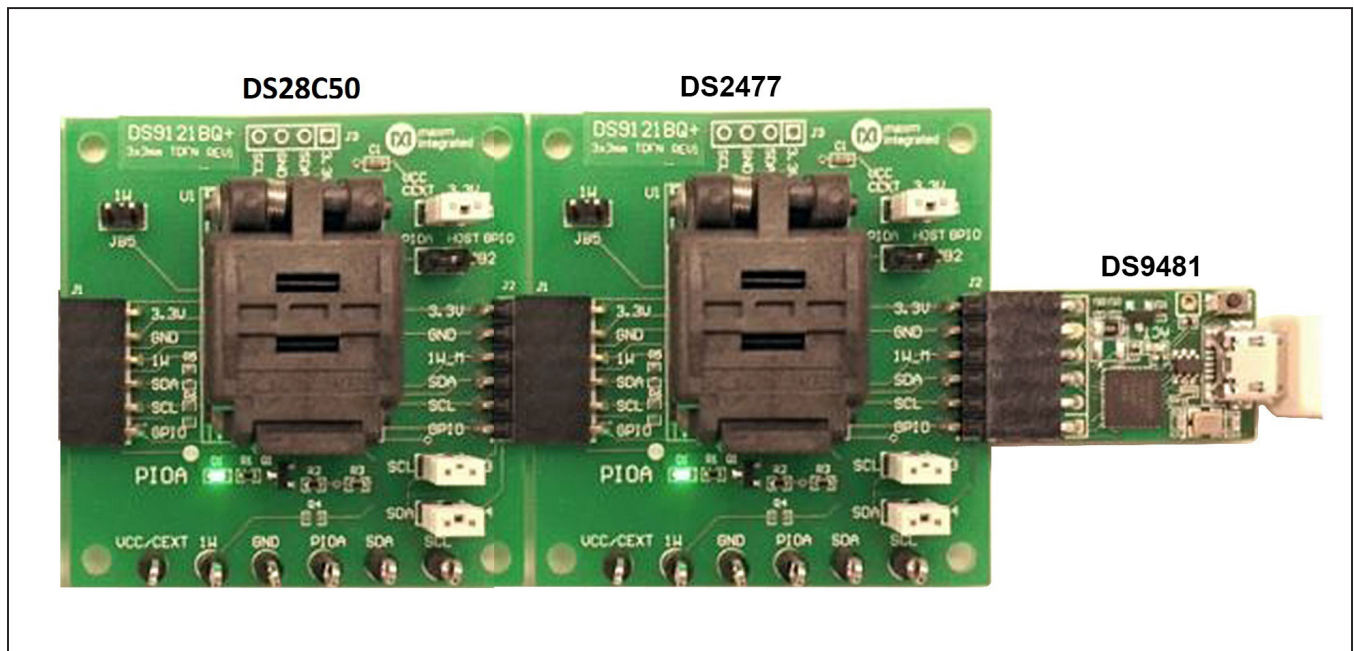

Figure 9. DS9481 Connected to DS2477 and DS28C50
- d) Connect the 1st DS9121BQ J2, 6-pin male plug, into the DS9481P-300#, 6-pin female socket per Figure 9.
- e) Connect the 2nd DS9121BQ J2, 6-pin male plug, into the 1st DS9121BQ J1, 6-pin female socket per Figure 9.
- f) For the DS9121BQ+ socket boards, configure jumpers JB3 to use SCL, JB4 to use SDA and JB1 to use 3.3 per Figure 9.
from the device menu, the coprocessor (DS2477) is used with the hardware configuration in Figure 9.